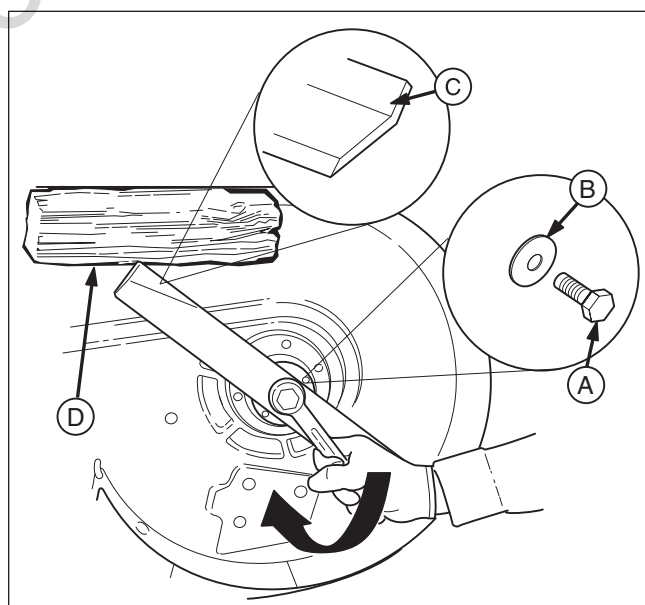

Figure 23. Tightening the Mower Blade for Installation
- Reinstall each mower blade with the air lifts pointing up towards the mower deck as shown in Figure 23. Secure with the mower blade mounting bolt and flat washer (**A & B**, **Figure 23**).